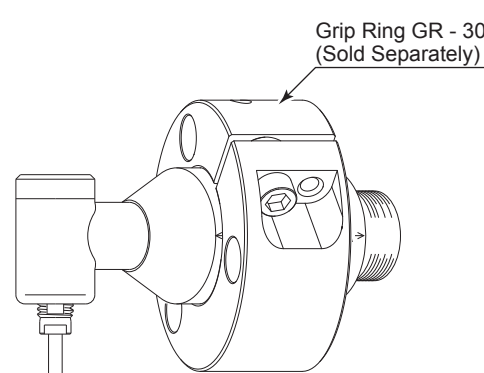

Fig. 6
- * When installing the Spindle, it is recommended to use a "GR - 30 Grip Ring (sold separately (Fig. 6))". If the GR - 30 Grip Ring cannot be used due to the restriction of dimension and space, install as shown in ② below.